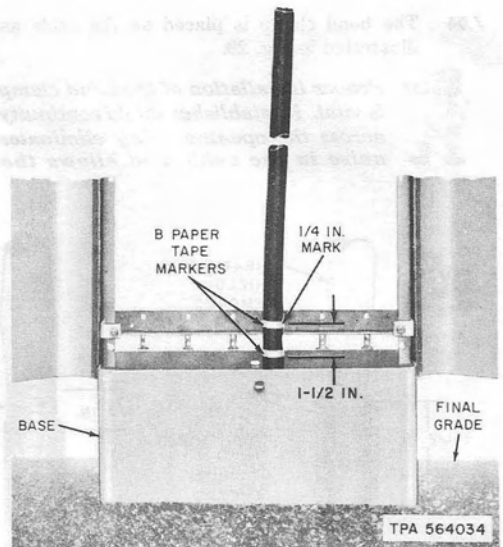

Fig. 27—B Paper Tape Markers Placed
- 7.02** Remove the ground bracket assembly. Mark the sheath 1-1/2 inches below the 1/4-inch mark, and place a B Paper Tape Marker on the sheath (Fig. 27).